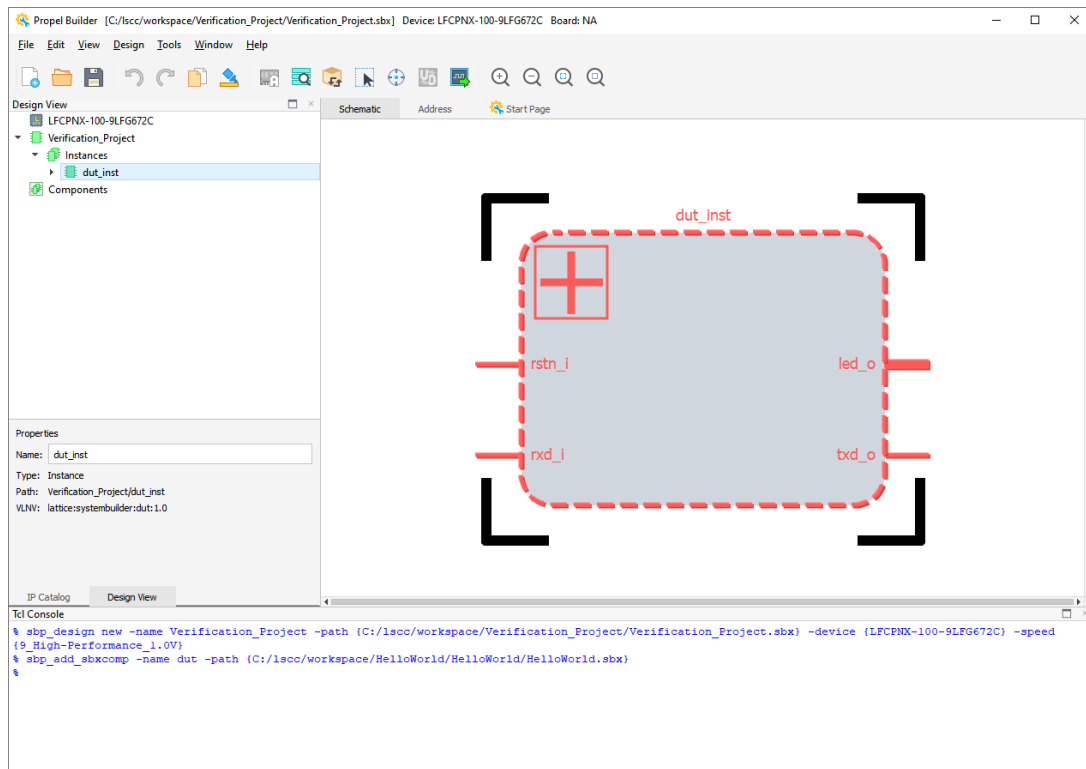

Figure 2.155. Verification Project
- Click **Finish**. The dut_inst of SoC project is shown in the Schematic view (Figure 2.155).